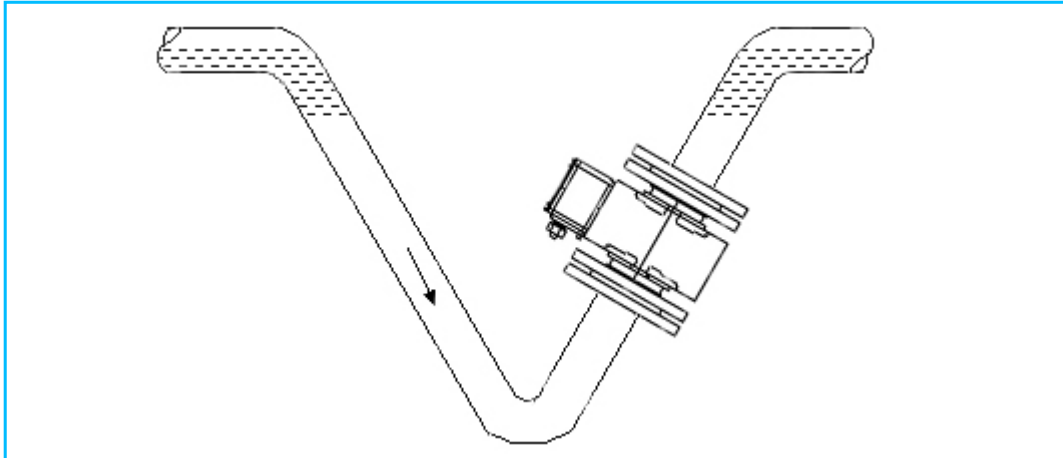

Fig. 8 :
- For free flow in- and outlet, provide invert as required, to assure that the pipeline is always full (Fig. 8)